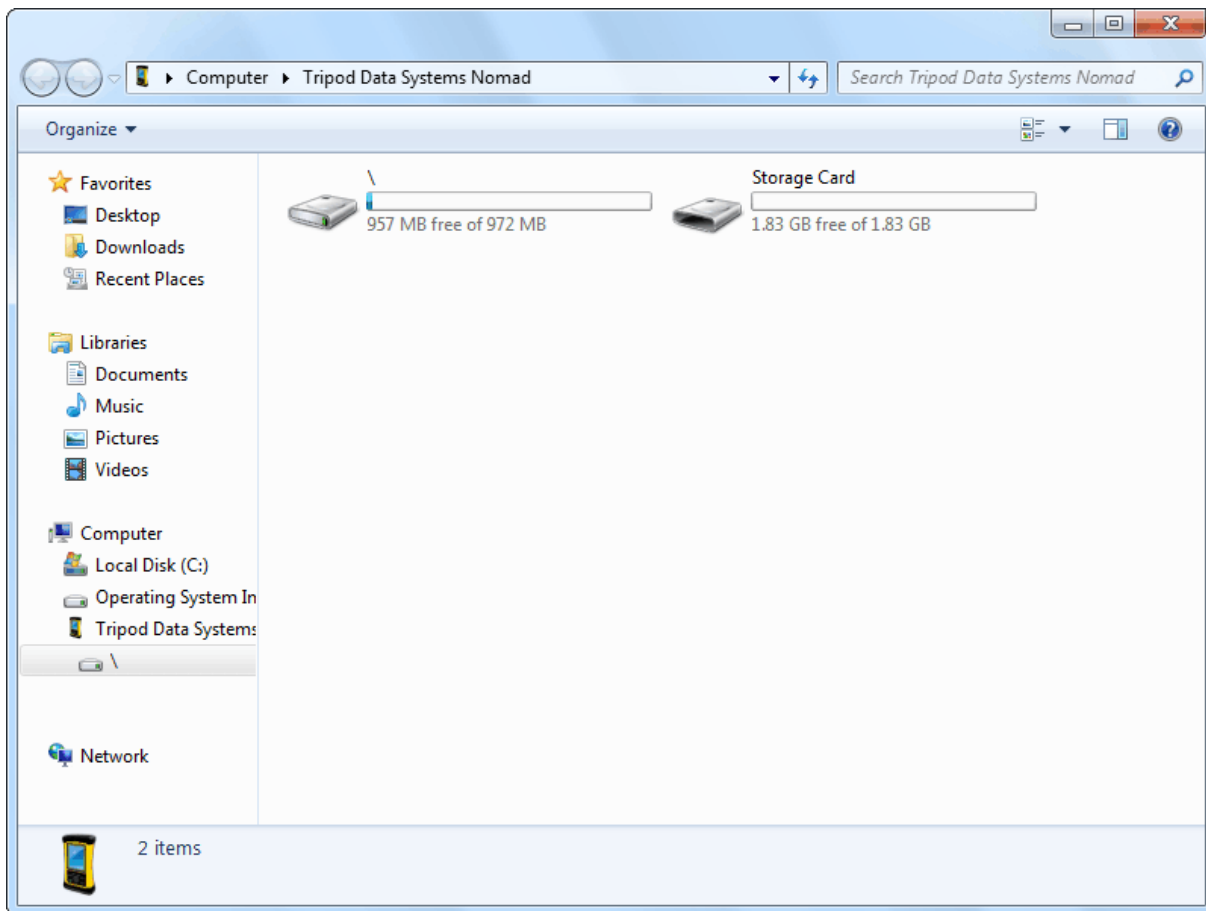

Figure 53. The Micro-trans-SPEC Computer’s Top-Level File Structure.
- 6) Windows Explorer will open and the Micro-trans-SPEC's computer will be listed as shown in Fig. 53. Stored search and identification files will be located in the SD card's **Data** folder or in the **My Documents** folder, depending on the location set on the Spectra dialog (see Section 4.1.8.2).